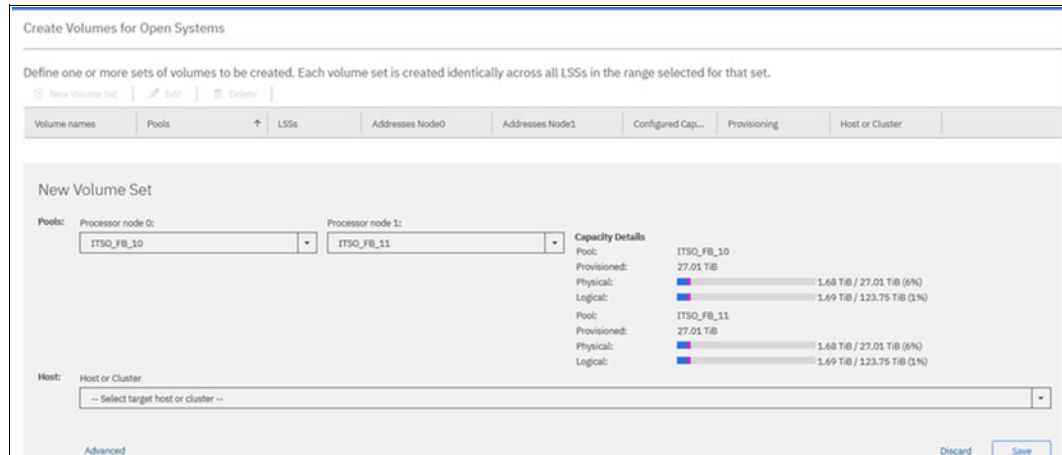

Figure 9-49 Creating open systems (FB) volumes
2. The Create Volumes for Open Systems configuration dialog for open systems hosts opens (Figure 9-49 on page 262). By default, the DS GUI tries to balance the volumes across the pool pair so that the workload is balanced across both nodes or central processor complexes (CPCs). So, by default it selects both CPC pools. An Administrator or Physical Operator user can select the pool that they want in the drop-down option at pool selection.